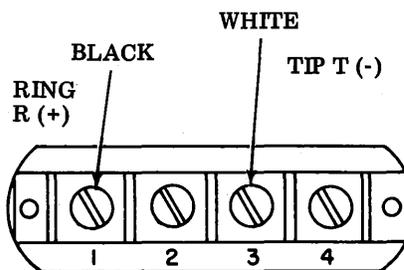

Figure 16 - Signal Line Connections on Electrical Service Assembly
4.03 Route the signal line through the opening in the lower right rear of the pedestal, up through the opening in the right rear of the pan, and to the signal line terminal block on the electrical service assembly. Connect the signal line as indicated in Figure 16.